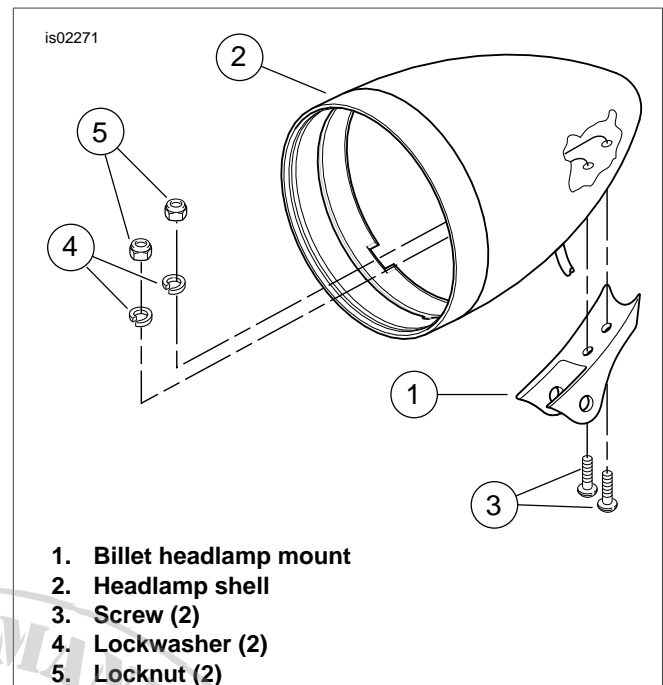

Figure 4. Install Headlamp Mount to Headlamp Shell
3. See Figure 4. Install billet headlamp mount (1) to headlamp shell (2) using two 1/4-20 x 7/8 in. screws (3), lockwashers (4), and locknuts (5) supplied in kit. Align mount and tighten hardware until snug.
6. See Figure 4. Tighten 1/4 in. hardware previously installed to 108 in-lbs (12 Nm).